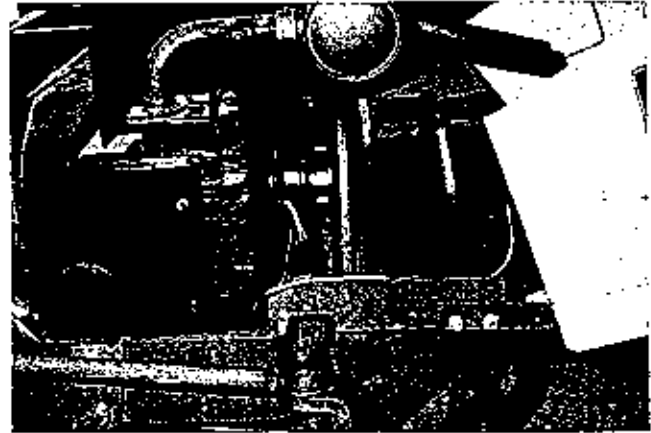
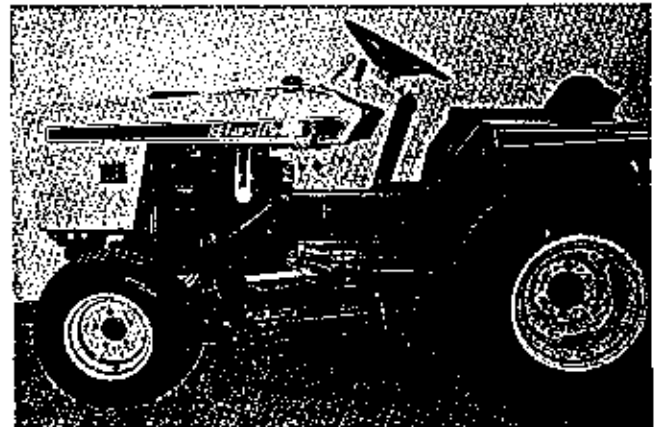

Figure 5
Figure 6
5. Install V-belt over tractor P.T.O. pulley. Figure 5. This belt needs to be positioned in such a way that when mounting frame assembly is raised, the hydraulic pump pulley will be in front of the lower belt loop. With wheels still in extreme left position, and from left front side, raise front of mounting frame assembly, until you can install the two (2) $\frac{1}{2}$ x 1" hex bolts furnished in front hanger on left side, leave loose. Figure 6. Install two (2) $\frac{1}{2}$ x 1" hex bolts in right front hanger mounting bolts securely, then tighten four (4) bolts holding rear hanger brackets and mounting frame securely.